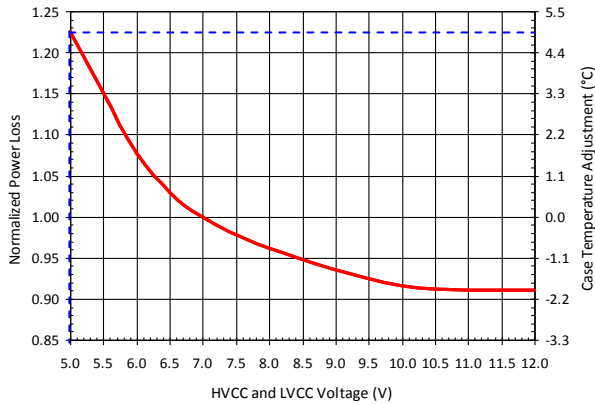

Figure 14: Normalized Power Loss vs. HVCC & LVCC Voltage
- 5) Determine the MOSFET drive voltage normalizing factor with $PVCC$ (HVCC/LVCC) = 5V, which is 1.22 based on the dashed lines in Figure 14.
- 12) Determine the case temperature with $PVCC$ (HVCC/LVCC) = 5V, which is $+4.9^{\circ}$ based on the dashed lines in Figure 14.